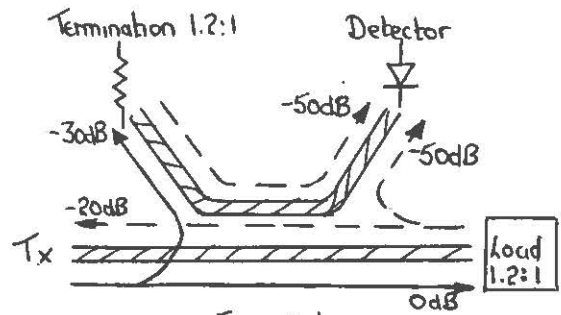

Figure 1
Consider Fig 1, where the coupler has a load with a 1.2:1 swr (20dB return loss) on it. The forward power will couple -30dB into the termination, and the reflected power -50dB into the detector. If the coupled line termination has an swr of 1.2:1, then this will also reflect -20dB of the incident signal (-30dB), ie -50dB back to the detector. This is then producing a signal at the same level as the one to be measured.
1. The semi-rigid feed/balun should be bent round after leaving the feed point so that it sits somewhere between the back wall and the centre as it passes down the tube. The exact arrangement is uncritical so long as the cable does not come too close to the slot and upset its operation (apart from the feed point of course). See figure 1.